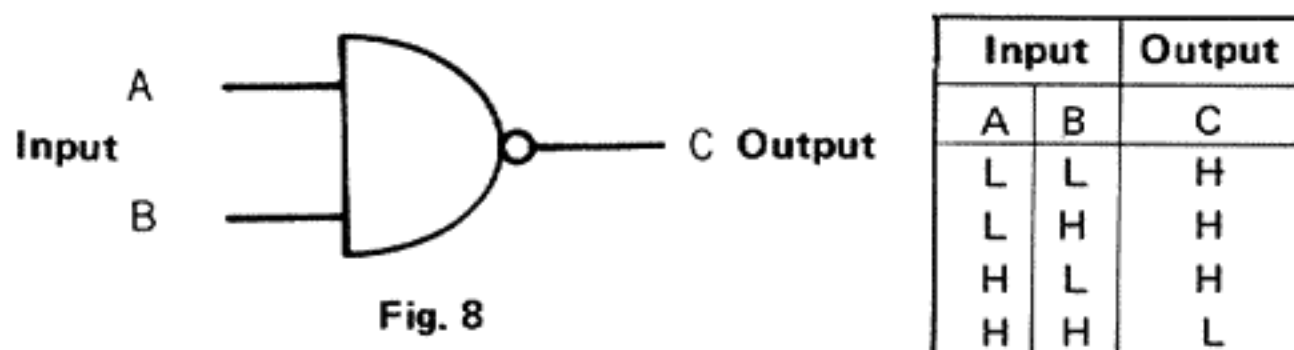

Fig. 8
- The NAND gate in IC804 and IC805 (physical No. M53200) has the input/output relationships shown in Figure 8. As is seen, when one of the two inputs is Low, the output is always High regardless of the High/Low states of the other input, thus making Low inputs predominant over High inputs.